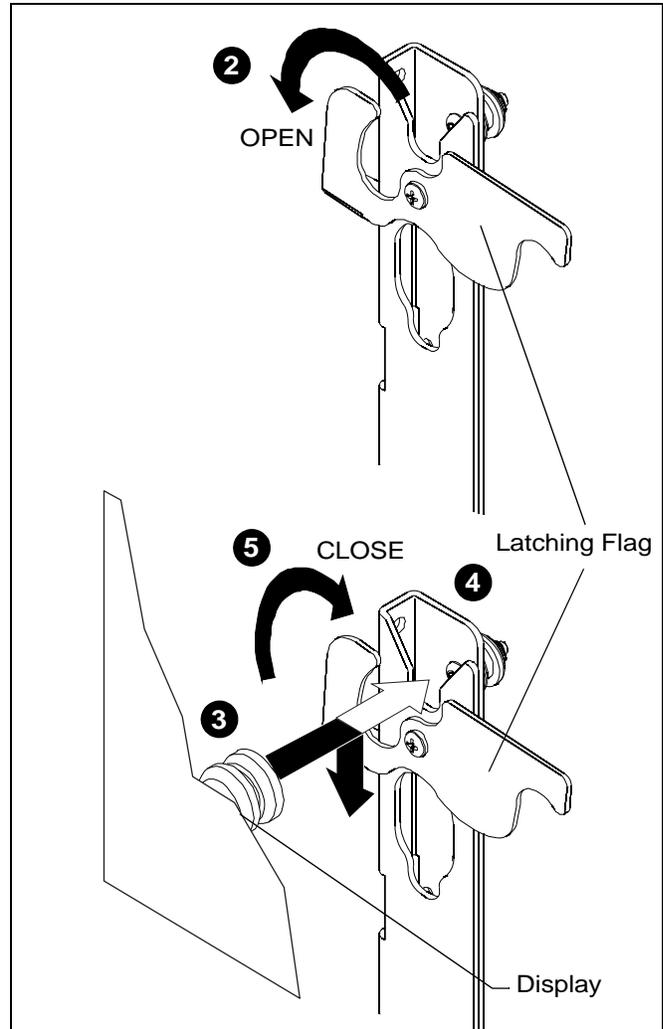

Figure 11
2. Verify latching flag is in the OPEN position. (See Figure 11)
5. Move latching flag to CLOSED position to secure display on accessory. (See Figure 11)